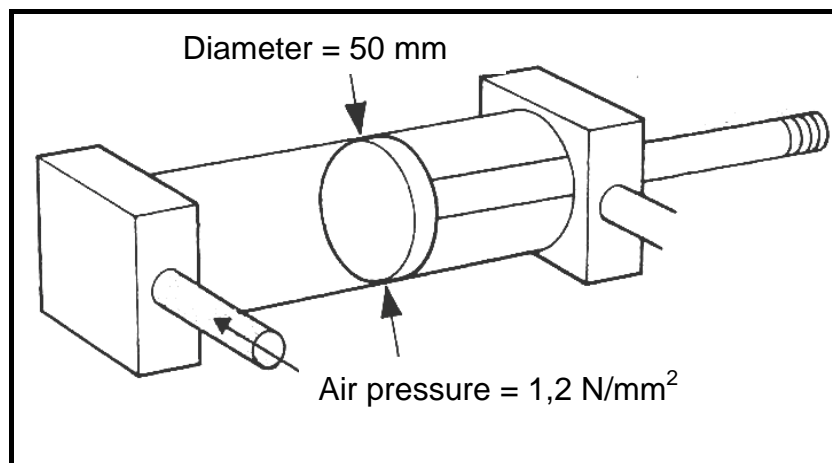

FIGURE 1.7
- 1.17 What force is produced by the piston shown in FIGURE 1.7 if the air pressure is $1,2 \text{ N/mm}^2$? (Hint: $1 \text{ N/mm}^2 = 1 \text{ MPa}$.)